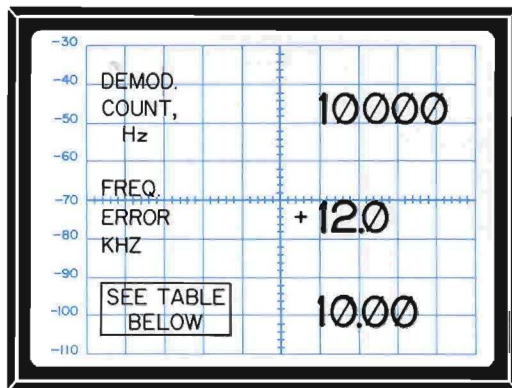

Figure 5-9 METER Menu
The FM/AM-1500 METER Menu is a non-programmable menu, which provides an alphanumeric display of signal parameters monitored by the FM/AM-1500 front panel meters. To display the METER Menu, place the DISPLAY Control (51) to the "METER" position. Displayed parameters include demodulated audio frequency, frequency error, deviation, % AM modulation, power, signal strength (%) and SINAD. A sample display of the METER Menu is shown in Figure 5-9. The top two data fields of the menu will always display the demodulated audio frequency and frequency error. The information displayed in the bottom data field will vary, depending on the positions of the front panel MODULATION Control (7) and DEV/PWR Control (6); (see Table 5-1).